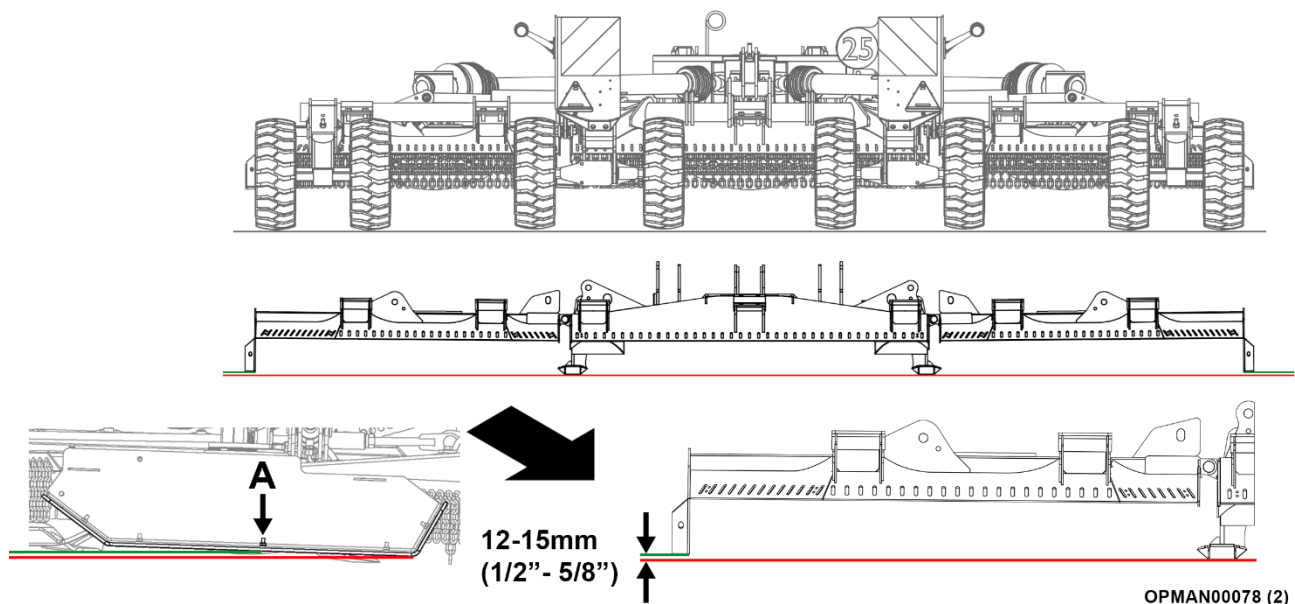

Figure 4.22 – Multicut Wing Height Adjustment
We recommend the wings are set 12 – 15mm (½" – 5/8") higher than the centre chassis, to maintain a level cut; see Figure 4.22.
Checking cutting height should be measured at the position of the centre bolt on the machine skid; see Figure 4.22 (A).